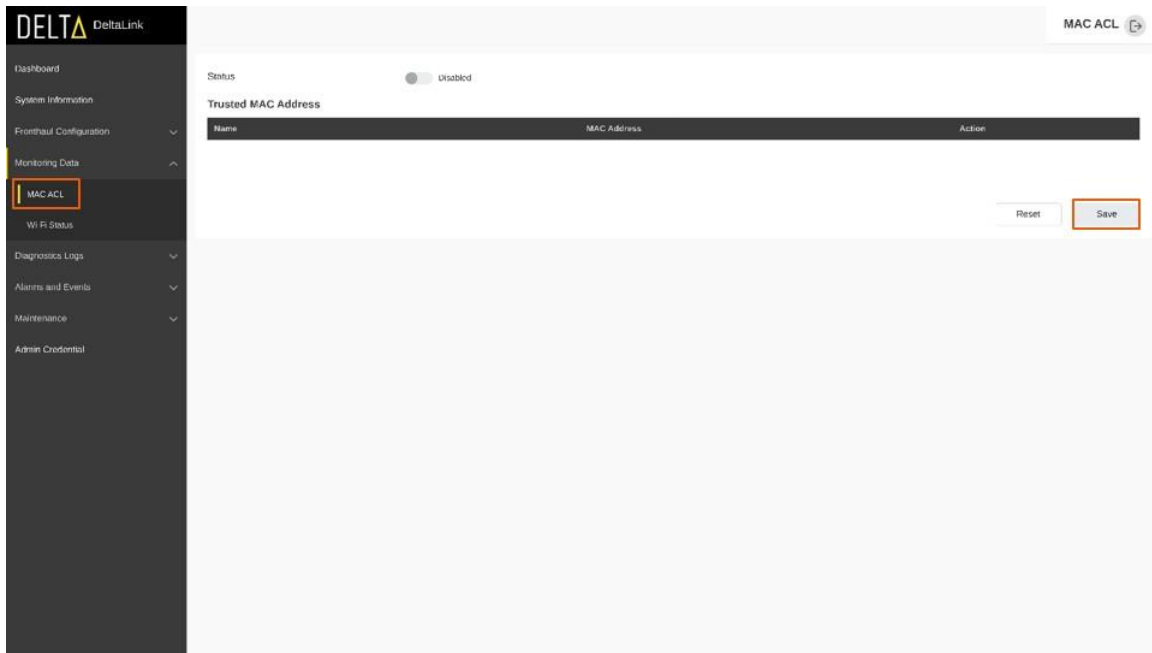
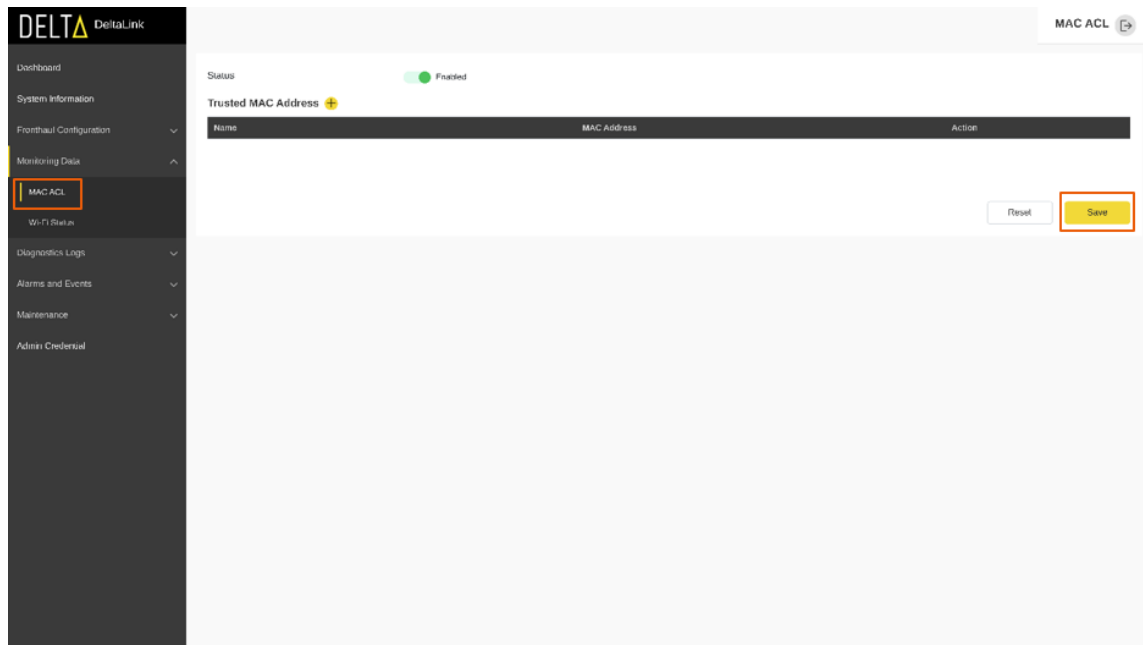

Figure 40 MAC ACL - 1
Figure 41 MAC ACL - 2
- a) Navigate to “Monitoring Data” and select “MAC ACL” from the expanded menu as shown in the Figure 40 below.
- b) By default, the hotspot MAC ACL feature shows the “Status” “Disabled”. To enable and configure the MAC ACL feature, switch the “Status” to “Enabled” as shown in the Figure 40 & Figure 41 below.